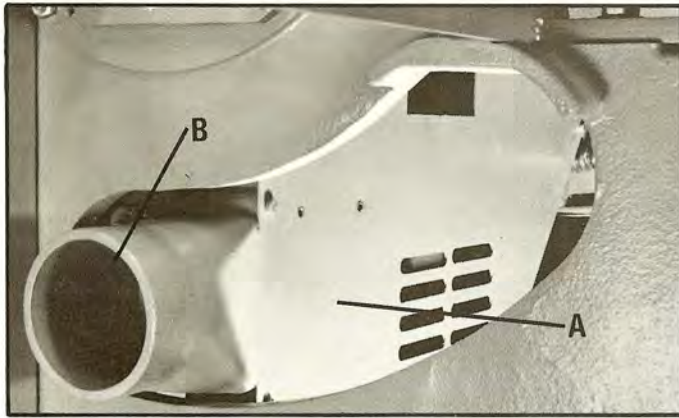

Fig. 41
The lower half of the saw blade is completely shrouded by a chip exhaust chute (A) Fig. 41. The exhaust chute moves with the saw arbor when the blade is tilted. The open end (B) of the exhaust chute is 4" O.D. and can be connected to a central dust collection system.